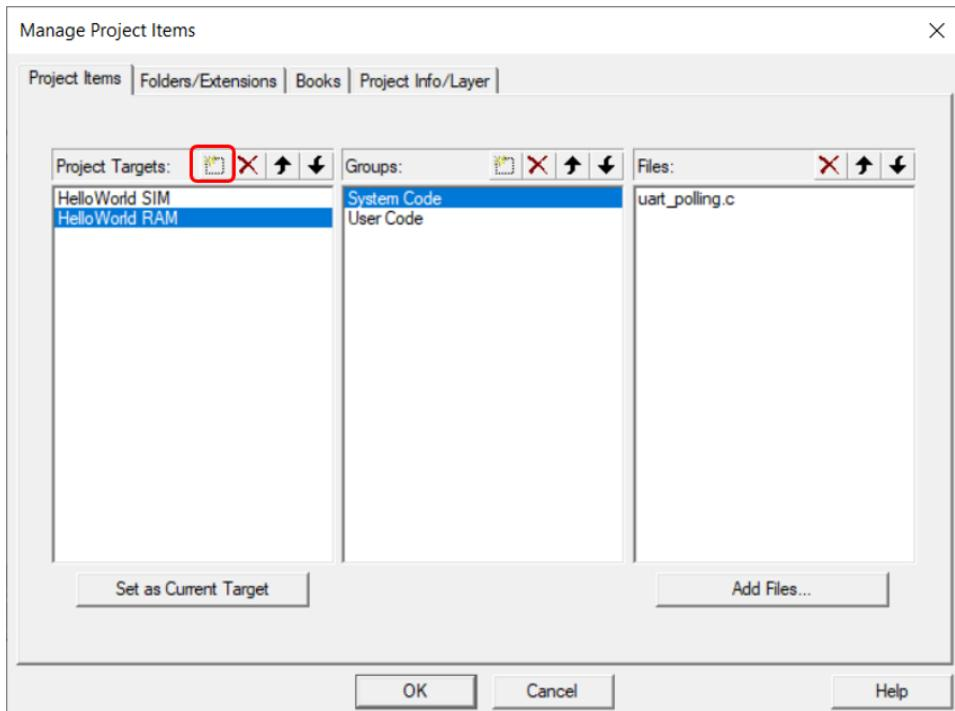

Figure 7.26: Keil IDE: Manage Project Items Window.
2. Press the New icon to create a new target and name it “HelloWorld RAM”(see Figure 7.26). The new target duplicates the HelloWorld SIM target configuration.